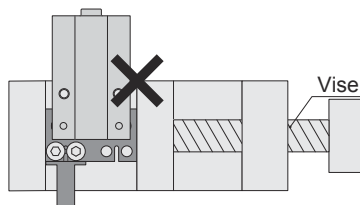

Fig. 6
- Use finger installing face and fixing holes to install the attachment. Do not apply any excessive force on a finger. It may cause malfunction or shorten the product life time. Hold the fingers with a spanner or a vise and do not apply force to the gripper body while installing the attachment.(Fig.6)